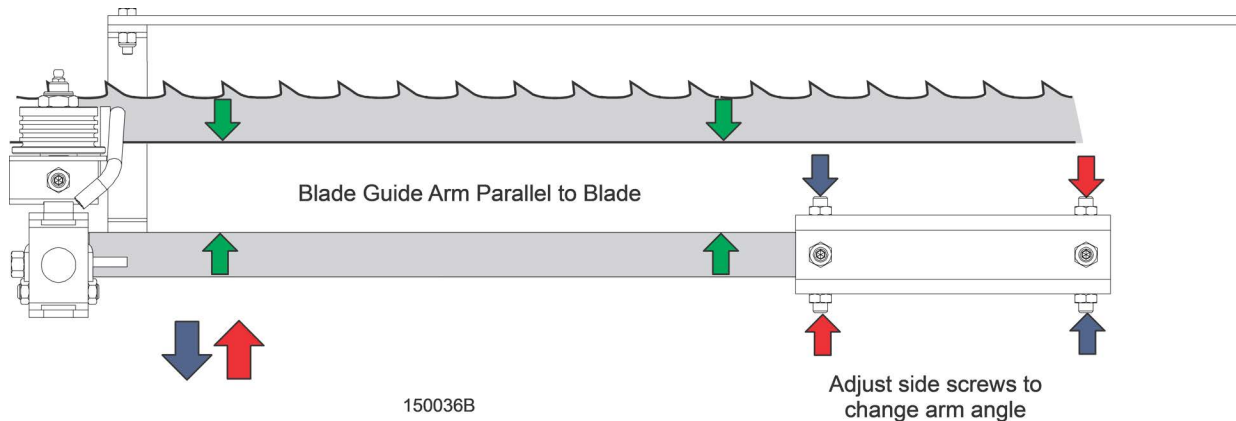

FIG. 7-4
11. To move the blade guide end of the arm toward the front of the sawmill, loosen jam nuts on the front inside screw and the rear outside screw. **See Fig. 7-4.**